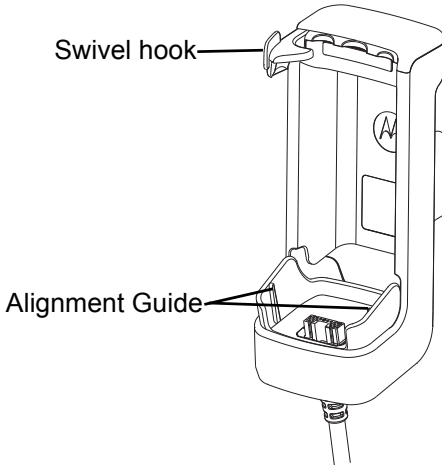

Figure 1. PMLN6182 Charging Cradle with Vehicular Power Module.
1. Place the TETRA Handportable Terminal in the cradle/holder by aligning the slots on the lower side of the TETRA Handportable Terminal with the alignment guides located at the bottom of the cradle/holder as shown in Figure 1 below.
1. Push the swivel hook clockwise to release. (See Figure 1 on page 4).